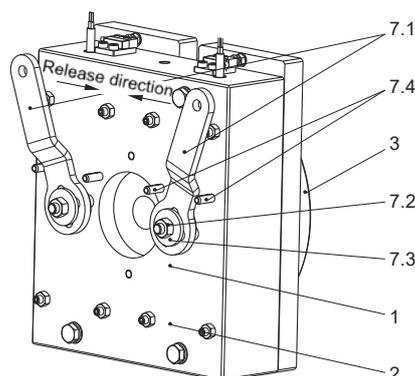

Fig. 6 (Hand release for Bowden cable)
The brake is released by shifting both hand release levers (7.1) simultaneously inwards, see Figs. 6 and 7. The armature disk (2) is attracted to the coil carrier (1); the rotor (3) is then free and the brake is released.